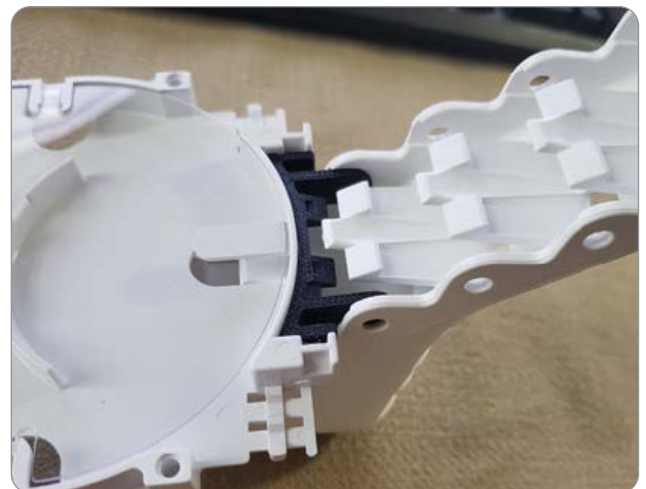

Figure 4
4. Install Optical tray on Apex X-2/X-2S yoke by securing one side of the hinge into the yoke and then rotating the second hinge pin to engage. (Figure 4)